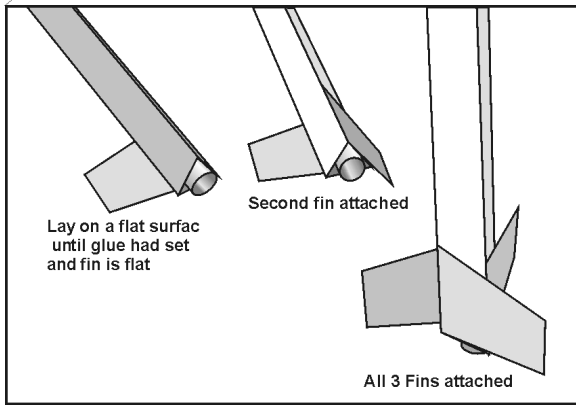

Figure 14
- Lay this assembly, Fin side down, on a smooth flat surface and press this glue area flat until the glue sets. Repeat with the remaining 2 Fins, as shown in **Figure 14**.